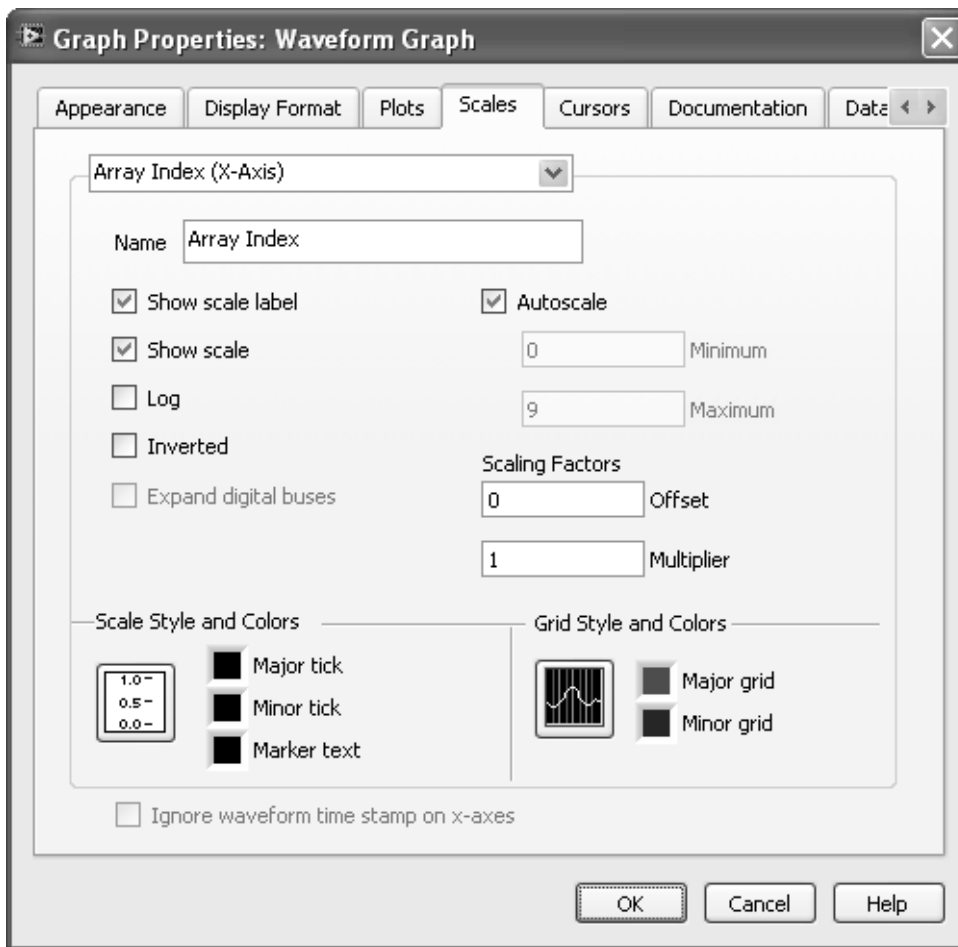

Figure 7.39
- **Properties**—opens the Graph Properties dialog to the Scales panel shown in Figure 7.39. The Scales panel allows you to activate or deactivate autoscaling, and enter minimum and maximum scale values if autoscaling is deselected.
The Properties dialog Scales panel (Figure 7.39) allows you to adjust a number of graph elements. First, select an axis using the drop-down list near the top of the panel, and then you can